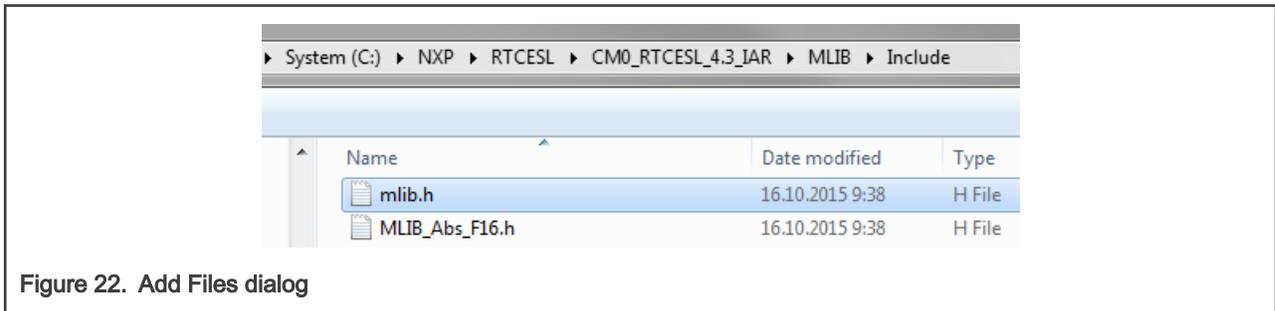

Figure 22. Add Files dialog
5. Navigate into the library installation folder C:\NXP\RTCESL\CM0_RTCESEL_4.7_IAR\MLIB\Include, and select the *mlib.h* file. (If the file does not appear, set the file-type filter to Source Files.) Click Open. See Figure 22.